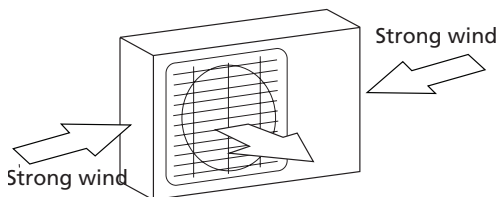

Fig. 6.1
- ☑ If the location is exposed to strong winds (for example: near a seaside), the unit must be placed against the wall to shelter it from the wind. If necessary, use an awning. (See Fig. 6.1 & 6.2)